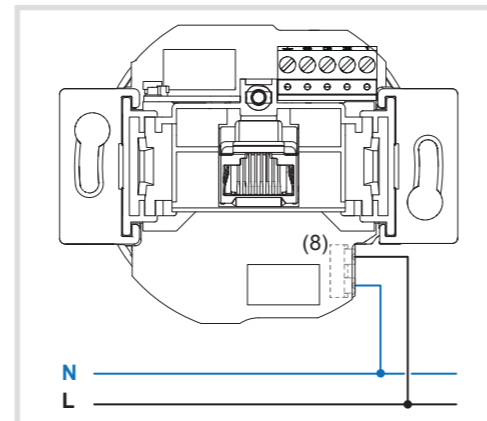

Figure 3: Connection supply voltage
- Strip cable adequately and connect cables to the plug-in terminals (8) (Figure 3).